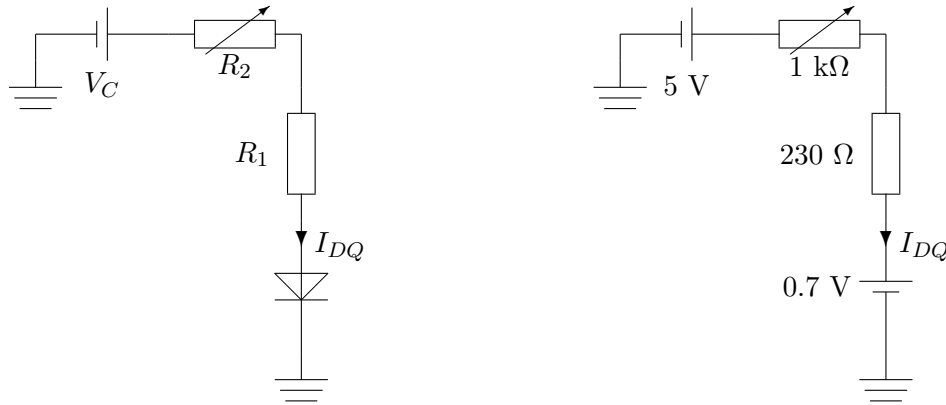

Figure 6: Left: Simplified circuit for DC analysis at the operating point. Right: Numerical values and ideal diode model substituted to the simplified circuit.
1. Circuit for DC analysis at the operating point is shown in Fig. 6. Note that the capacitors *block* undesirable DC currents from source or from load from affecting the DC operating point.
From the circuit on right of Fig. 6 we obtain $I_{DQ} = \frac{5 \text{ V} - 0.7 \text{ V}}{1 \text{ k}\Omega + 230 \text{ }\Omega} \approx 3.5 \text{ mA}$.